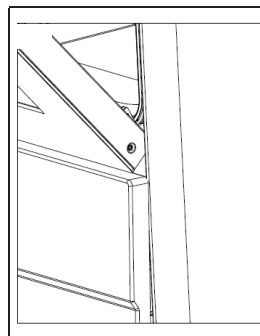
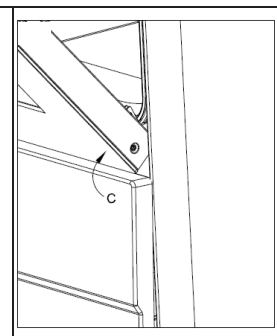

Fig.3
Fig.4
- Hold the door as shown in fig.3
- Gently close the door(fig.3)until left and right hinge levers A are hooked to part B of the door(fig.4).
- Withdraw the hinge hooks from their location following arrow C(fig.4);